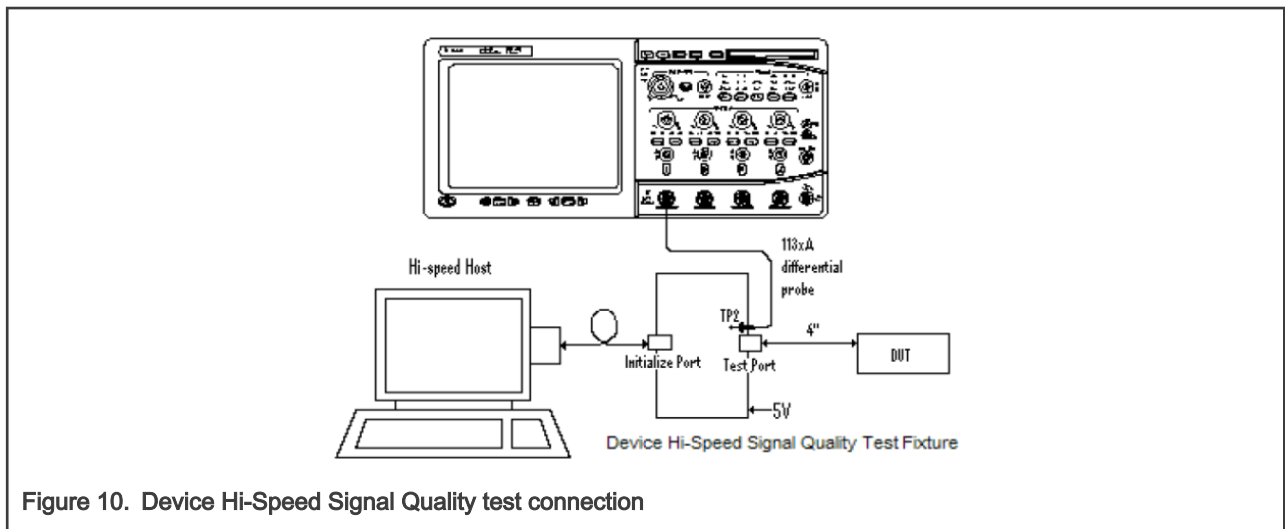
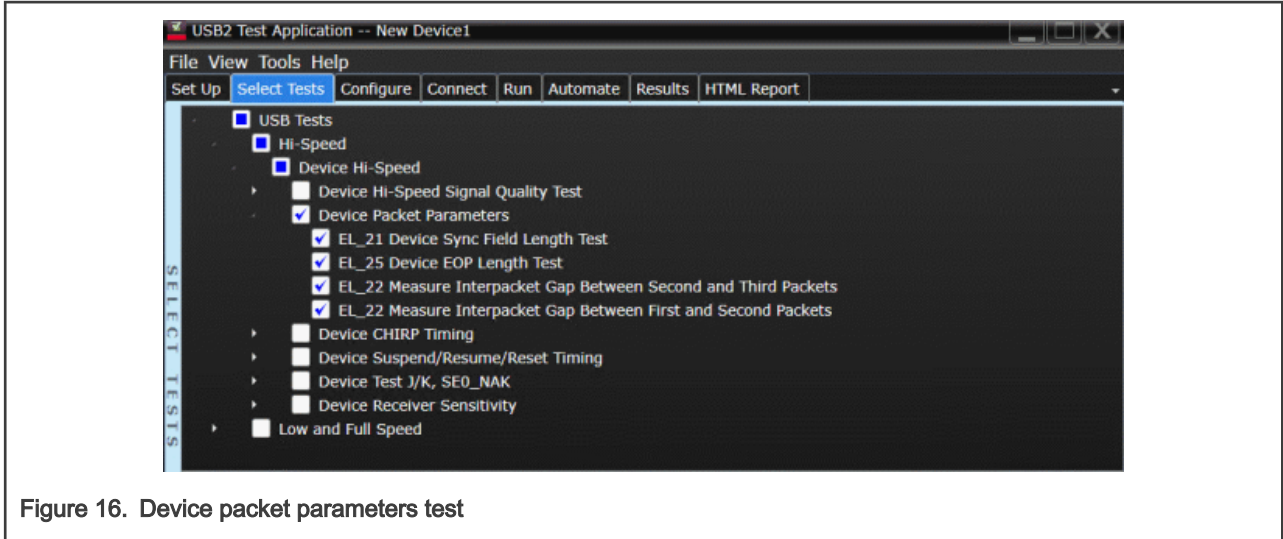

Figure 10. Device Hi-Speed Signal Quality test connection
Figure 16. Device packet parameters test
3. Connect the test equipment, fixture, and oscilloscope, as shown in Figure 10.
1. Select the test items as shown in Figure 16, connect the test equipment as shown in Figure 10, and connect the 50 ohm terminator to the SMA interface on the fixture.